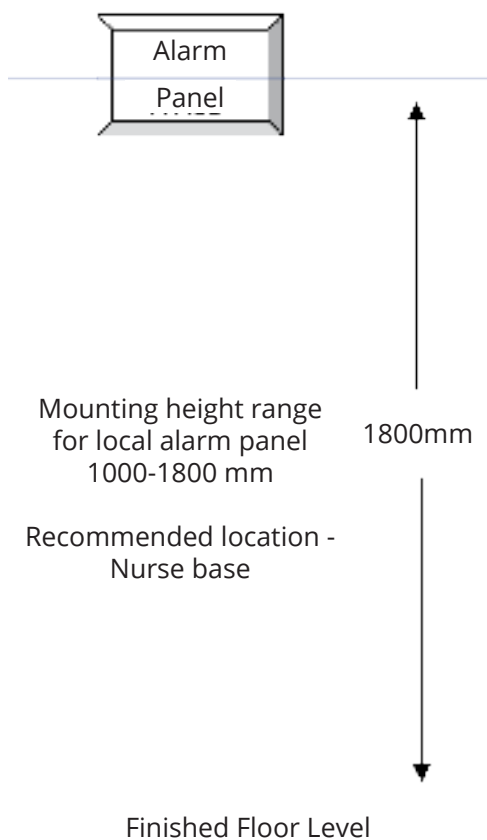

Figure 2.1: Local alarm panel mounting height
2. Ensure the backbox is in the correct orientation. Locate the backbox at the correct position and mark out the slots in each corner for the securing screws. See mounting height requirement (Figure 2.1).